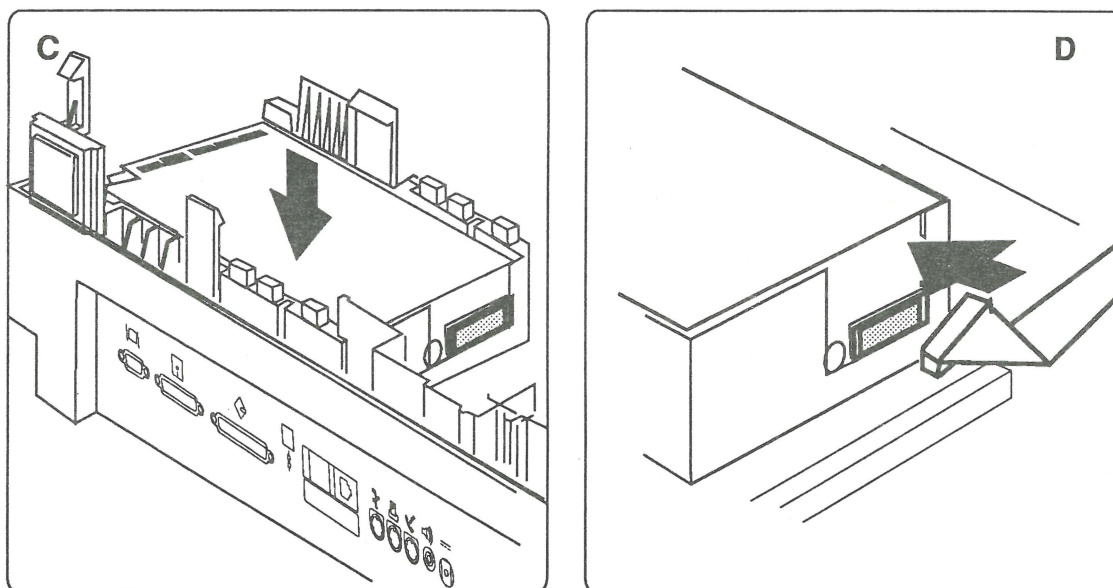

FIGURE 8
4. **Figure 8-A.** Disconnect the disk drive cable from the disk drive.
5. **Figure 8-B.** Lift the disk drive up and out of the subframe.
1. **Figure 8-C.** Place the disk drive in the subframe.
2. **Figure 8-D.** Connect the disk drive cable.